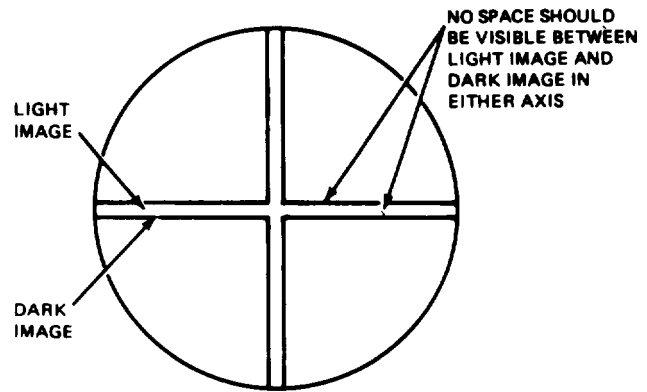
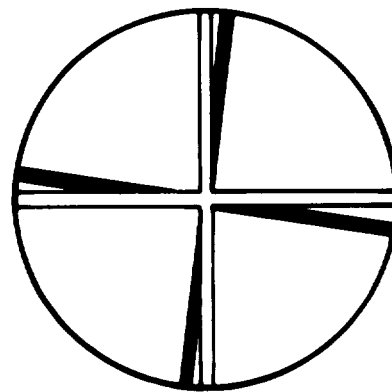

Figure 2-7. Autocollimator Reticles
Figure 2-7.1 Fixture Reticles Out of Alinement
(8) Check to see if two reticle images (figure 2-7) are present. If two reticles can be seen in eyepiece go to step 11. If two reticles cannot be seen in eyepiece go to step 9.
(9) If the dark image is not visible, verify it is present by slightly loosening one of the reference mirror screws and pressing on it. A dark image should then move out from behind the bright image. If the dark image does not appear, go to step 10. If the dark image appears, go to step 11.
- (10) Locate two reticles as follows:
(d) Move imaging lens (15, figure 2-4) until bright reticle image and dark reticle image (figure 2-7.1) are near each other.
(12) If corner of reference mirror (11, figure 2-4) was loosened in **step 9,** **torque reference mirror to 14 to 18 in-lbs.** If there is no space between bright and dark reticles (figure 2-7) go to **step 13.** If there is space between bright and dark reticles (figure 2-7.1) proceed as follows:
(d) Move **imaging lens (15, figure 2-4) until bright and dark reticles are near each other (figure 2-7.1).**
(e) Carefully loosen and tighten two adjusting setscrews (16, figure 2-4) **until bright reticle horizontal line is positioned over dark reticle horizontal line (figure 2-7).**
(f) Carefully loosen and tighten two adjusting setscrews (16, figure 2-4) until bright reticle vertical line is positioned over dark reticle vertical line (figure 2-7).
(d) Move imaging lens (16, figure 2-4.1) until bright reticle image and dark reticle image (figure 2-7.1) are near each other.
(14) If corner of reference mirror(12, figure 2-4.1) was loosened in step 11, torque reference mirror to 14 to 18 in-lbs. If there is no space between bright , and dark reticles (figure 2-9.1), go to step 15. If there is space between bright and dark reticles (figure 2-7.1), proceed as follows:
(d) Move imaging lens (16, figure 2-4.1) until bright and dark reticles are near each other (figure 2-7.1).